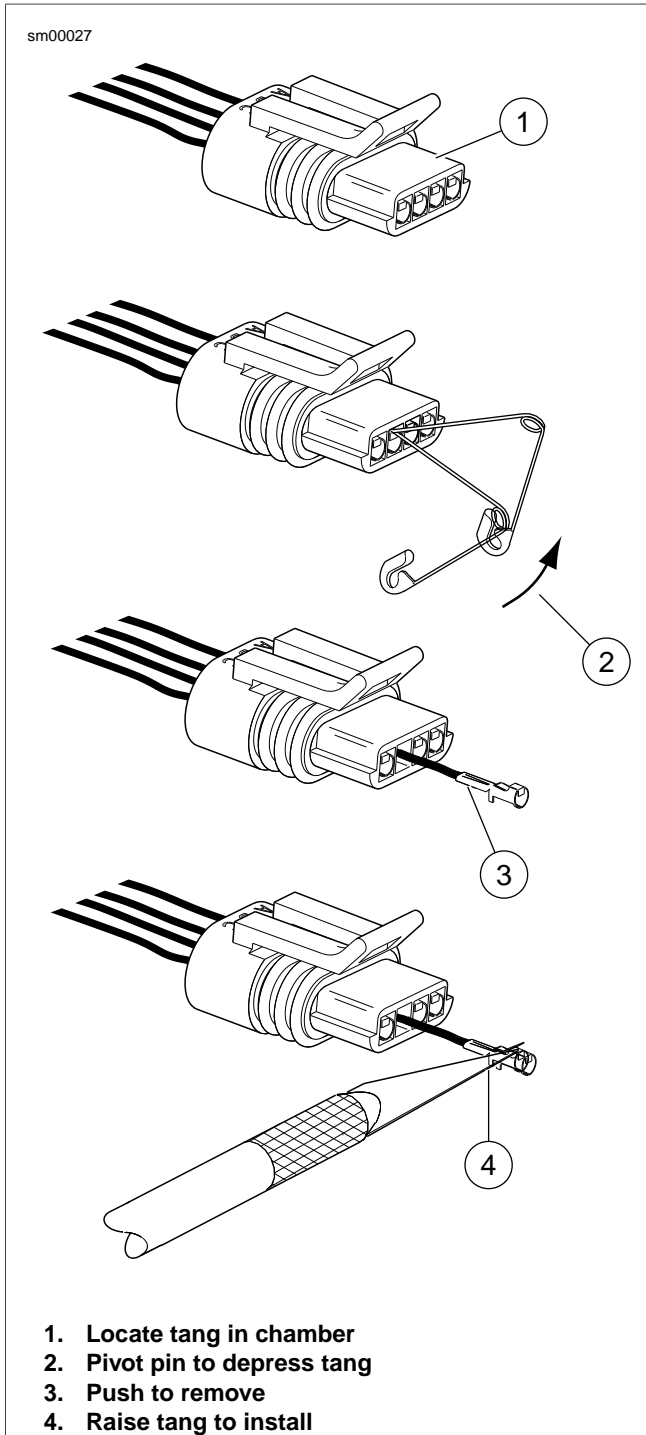
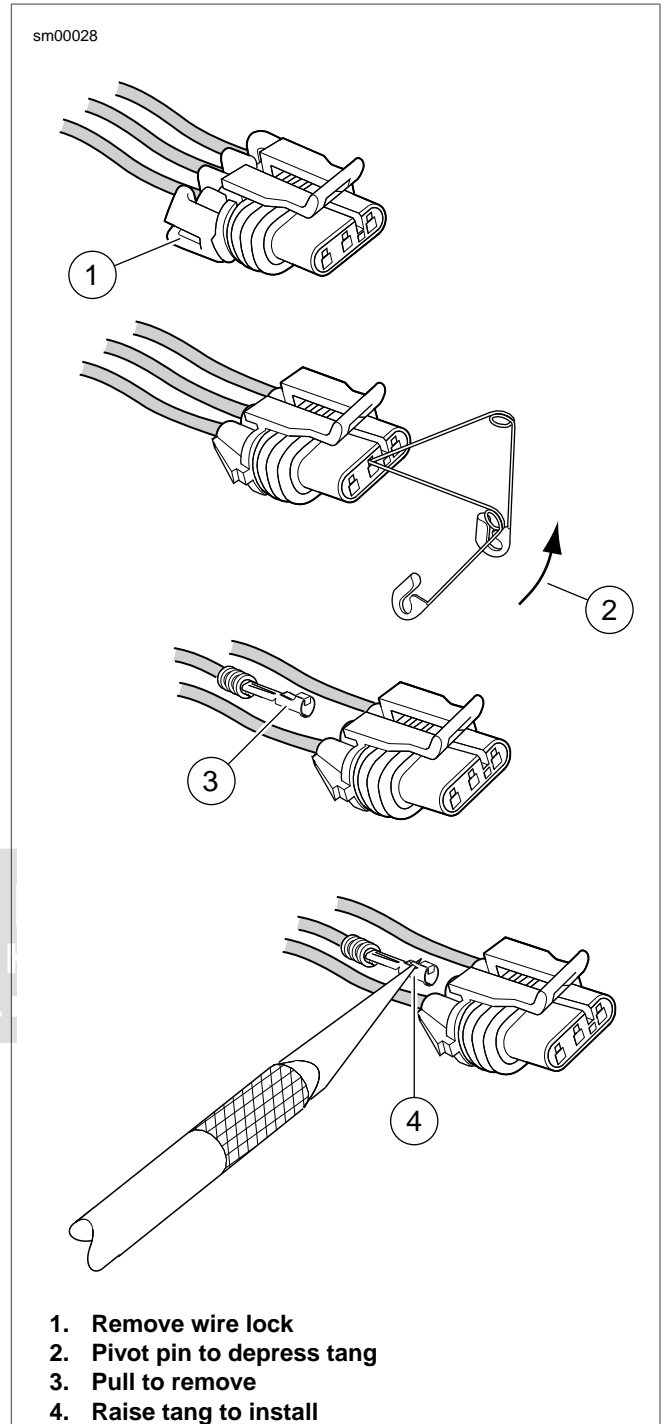

Figure A-34. 150 Metri-Pack Connector: Pull-to-Seat
Figure A-35. 150 Metri-Pack Connector: Push-to-Seat
1. See Figure A-34 for pull-to-seat connector or Figure A-35 for push to seat connector. Remove wire lock (1) from wire end of socket housing on push-to-seat type connectors.
1. See Figure A-34 for pull-to-seat connector or Figure A-35 for push to seat connector. Using a thin flat blade, like that on a hobby knife, carefully bend the tang outward away from the terminal body.
For push-to-seat: See Figure A-35. Seat wires in separate channels of wire lock and then push channels **inside** chambers at wire end of socket housing. Fully installed, slot on each side of wire lock engages ear on socket housing.